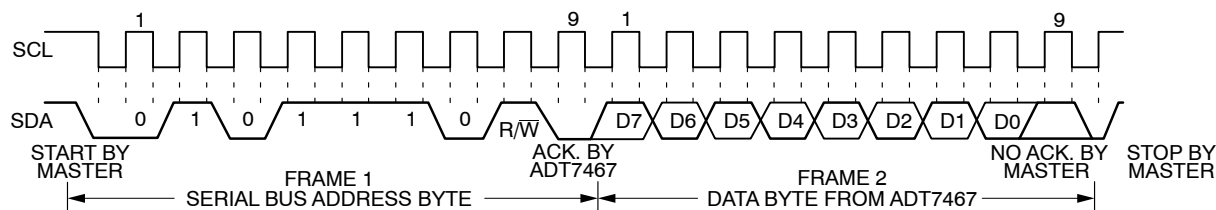

Figure 17. Reading Data from a Previously Selected Register
consisting of the serial bus address and the R/\overline{W} bit set to 1, followed by the data byte read from the data register. This is shown in Figure 17.
2. If the address pointer register is known to be at the desired address, data can be read from the corresponding data register without first writing to the address pointer register, as shown in Figure 17.